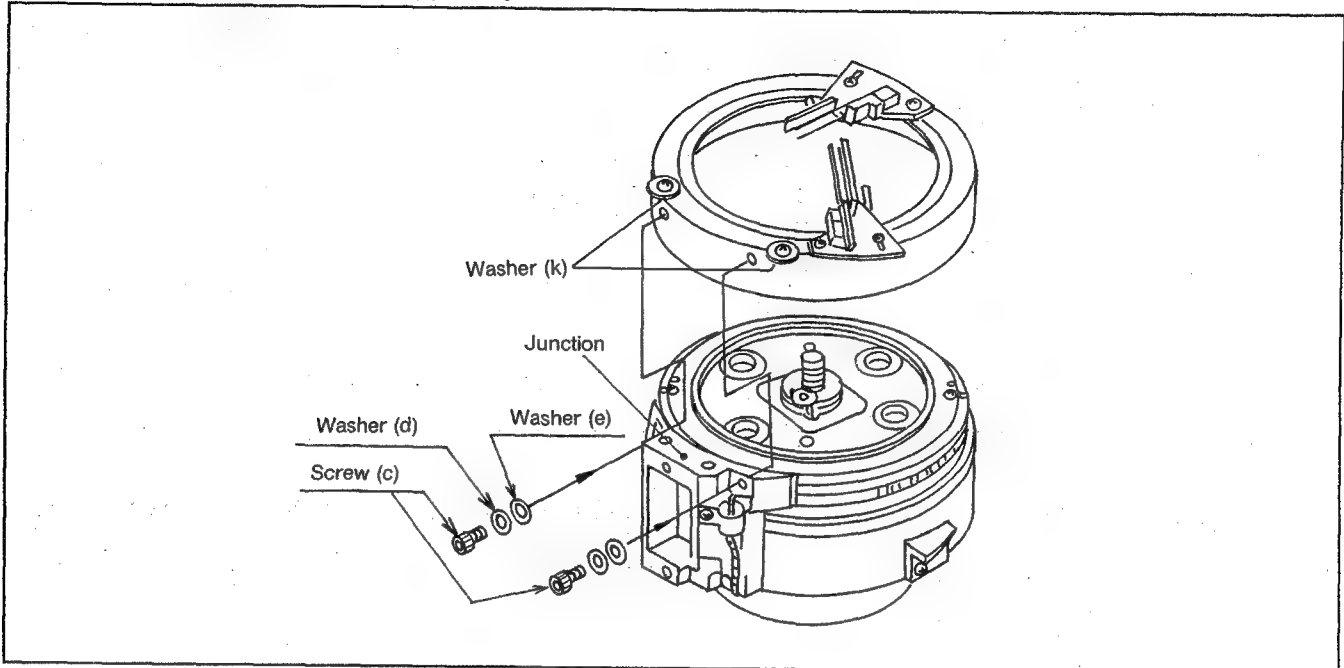

Fig. 7-10-1
- 1) Insert screw (c) and washer (d),(e). Install the upper cylinder and fix it by 2 screws (c) as shown in figure 7-10-1.